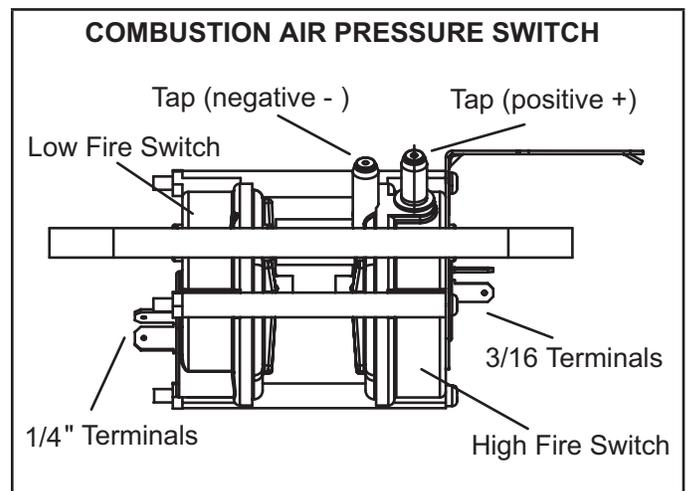

FIGURE 16
EL296DFV(X) series units are equipped with a dual combustion air pressure switch (first and second stage) located on the combustion air inducer orifice bracket. See FIGURE 16. The switch is connected to the combustion air inducer housing by means of a flexible silicone hose. It monitors negative air pressure in the combustion air inducer housing.